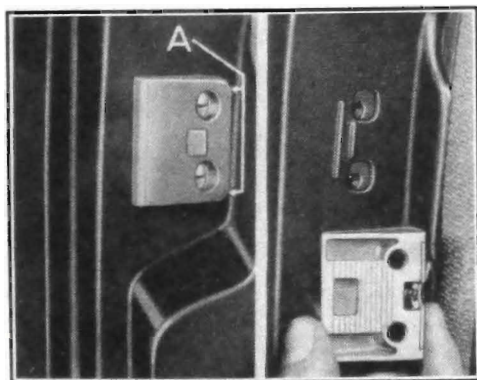

Fig. 1-101. The striker plate may be adjusted in or out for easy door operation.
4. All doors may be brought closer to the body at the lock side of the door by simply loosening the screws in the striker plate and setting it in a notch or two, then tightening the screws again. Serrations on the back of the striker plate allow for this adjustment. See Fig. 1-101.
- Door striker plates located on the body pillars are adjustable in and out for easy operation of the door lock bolt or latch, and to take up excess play through use. Serrations on the back of this striker plate and also on the body pillar, coupled with movable cage nuts as shown in Fig. 1-101,